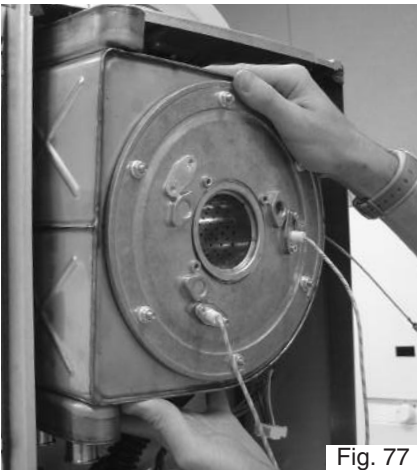

Fig. 77
5. Remove the heat exchanger from the boiler by sliding out. (Fig. 77);